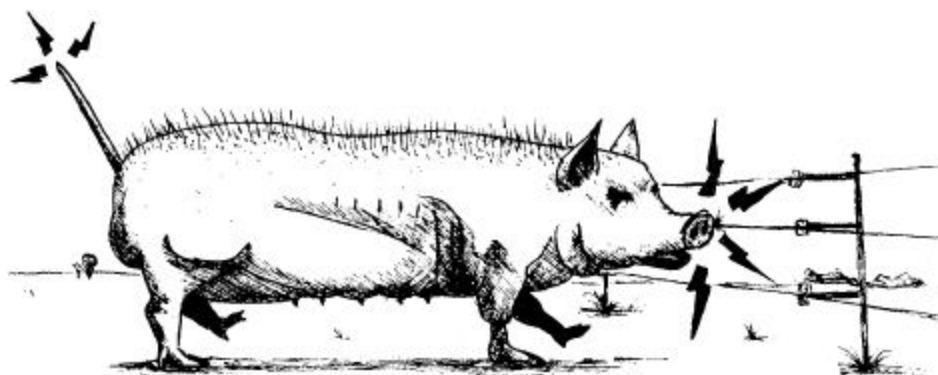

Figure 11.13 Pigs can be contained by electric fencing.
- purpose. You might choose stock for meat, wool, milk or manure. You may want an animal to keep the weeds down in the paddock. If you want land cleared, and shrubs, trees and weeds removed, then get pigs. Pigs can be contained by electric fencing, as shown in figure 11.13. A simple electric line is all you need. The pigs will “learn” quickly and test the line periodically - or push one of their mates into the electric fence to see if it is still on!